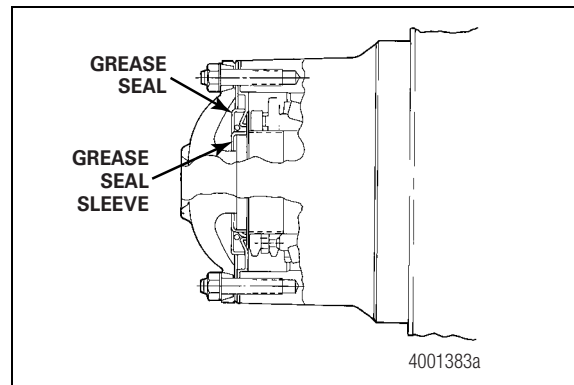

Figure 3.8
2. For optional grease-lubricated wheel ends, remove the grease seal on the outboard end of the hub. Discard the seal. Figure 3.8.